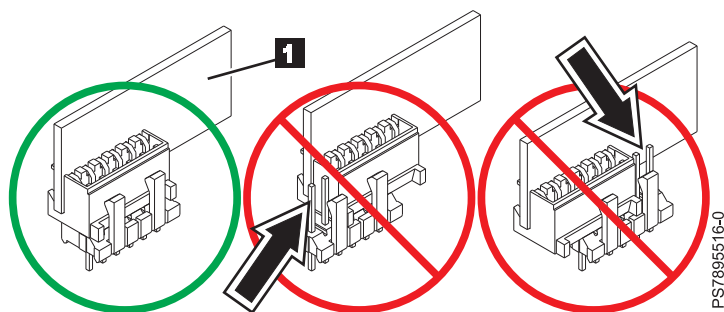

Figure 39. Installing the management card
To install the management card, which is shown by **1** in Figure 39, complete the following steps:
4. Insert the management card (as shown by **1** in Figure 39 on page 75) and verify that the card is securely on the connector and pushed down all the way to the main board.